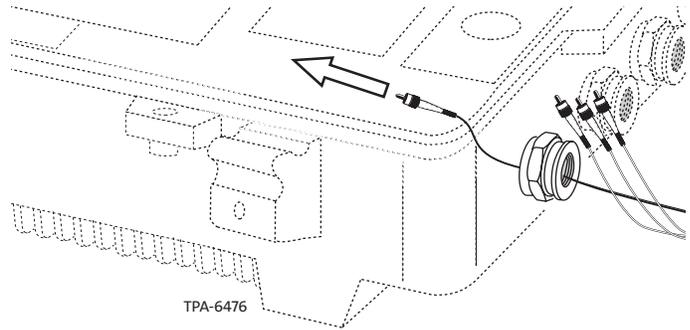

Figure 4
**Step 5:** With their protective dust caps still installed, pass the connectorized leads of the cable stub, one connector at a time, through the fiber optic entry port (Figure 4).